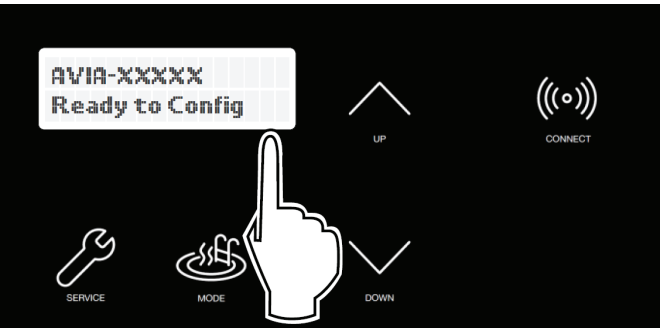

Figure 79. Wi-Fi Ready to Configure and HOTSPOT Identifier
- The **CONNECT** menu should display the Wi-Fi State, indicating "Ready to Config" wireless connection, and also the **HOTSPOT** identifier. See **Figure 79**.